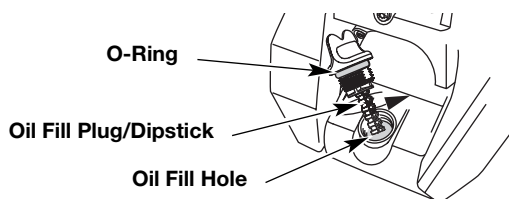

Fig. 3
- Remove the oil plug / dipstick from the crankcase (Fig. 3).
- Pour the entire bottle of oil into the oil fill hole (Fig. 3).